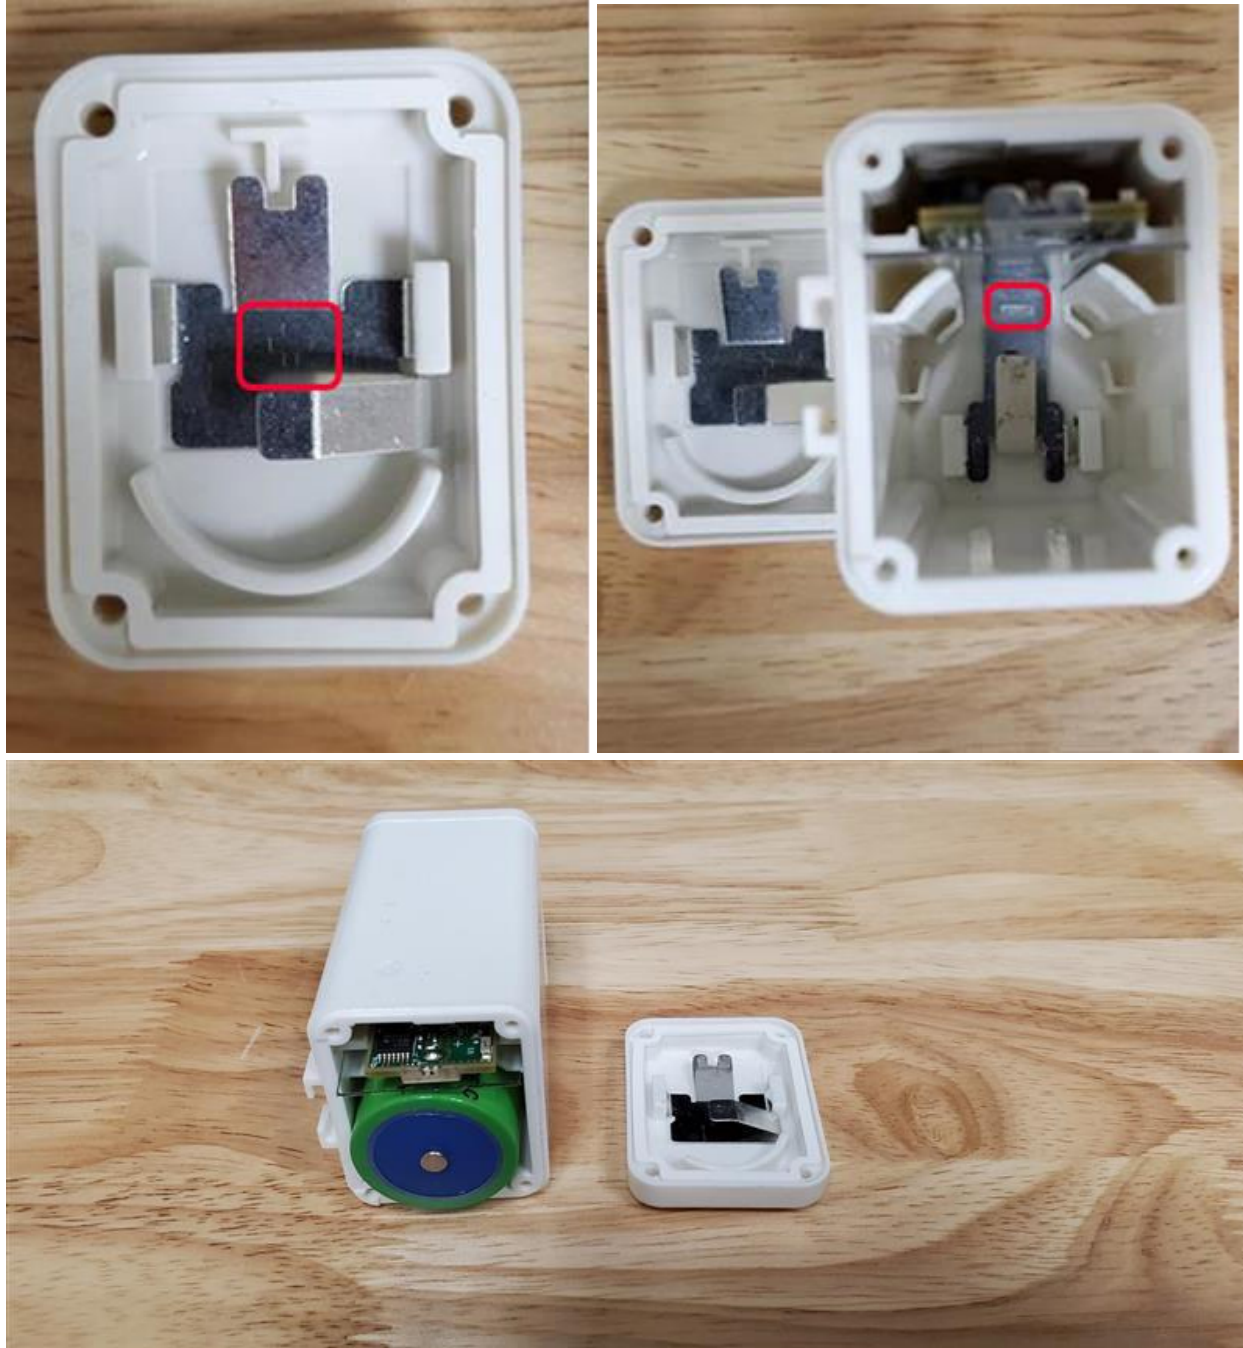

Figure 2-9: Battery Polarity Markers and Insertion
2. Remove the used battery, and replace it with a new 3.6V XENO XL-145F battery **ONLY**. When inserting the new battery, insert the negative terminal side first. The battery contacts are marked with their proper polarities (see Figure 2-9), with the positive terminal marked with a plus-sign (+), and the negative with a minus-sign (-).